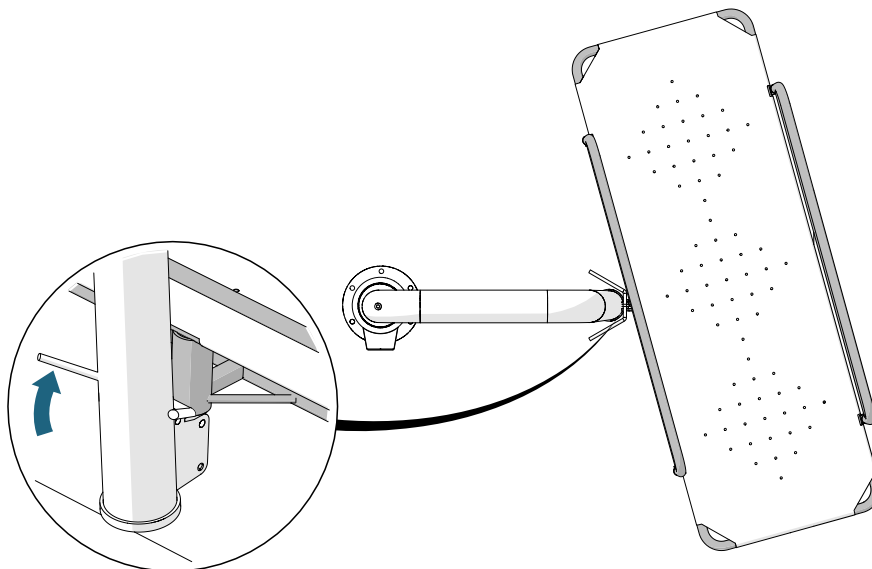

Figure 12 - Disabling the rotation lock (2)
3. Hold the lever and swing the accessory out of the parallel position (see figure 12).